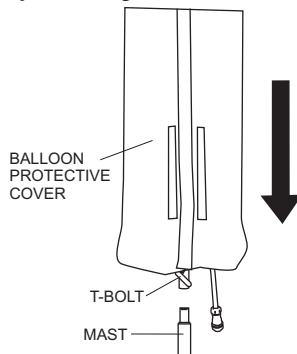

Figure 15. Installing the Balloon
1. Insert the balloon assembly into the mast. Tighten the T-bolt securely. See Figure 15.